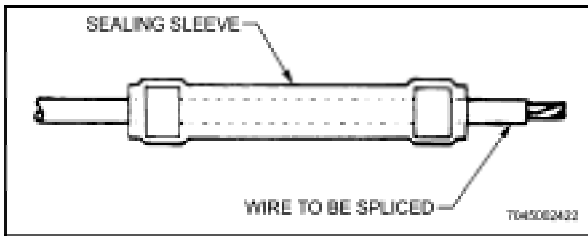

Figure 5-3 Sealing Sleeve placed on One Wire End
- Slide splice sealing sleeve over one end of stripped wire (Figure 5-3).